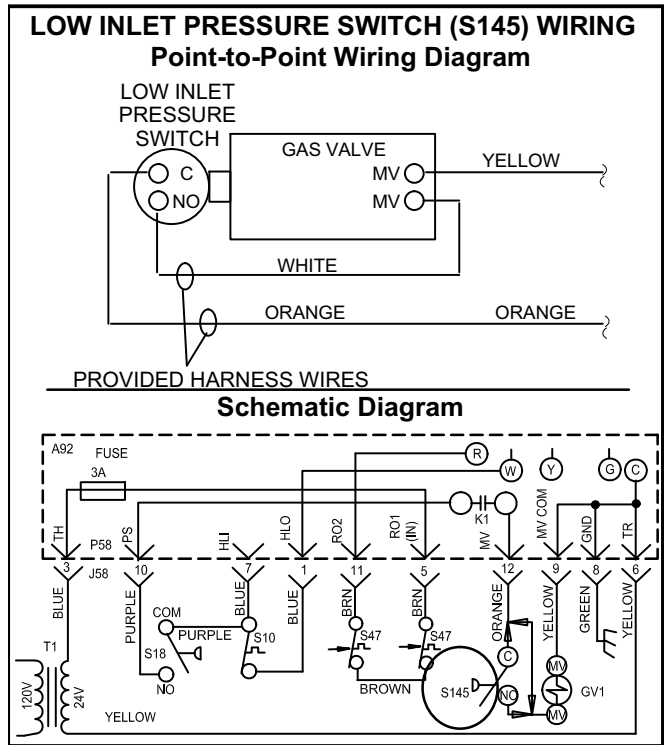

FIGURE 7
- 8 - Attach provided brass fitting to gas valve inlet. Install the low inlet pressure switch (S145) to the brass fitting. See figure 2. Wire as shown in figure 7. *ML180, EL180 and 80AF1 units only* - angle the low inlet pressure switch downward about 30° to allow louver clearance for the pressure switch electrical connections.
- 9 - Re-install the manifold/valve assembly. Connect the two wires to the gas valve as shown in figure 7.